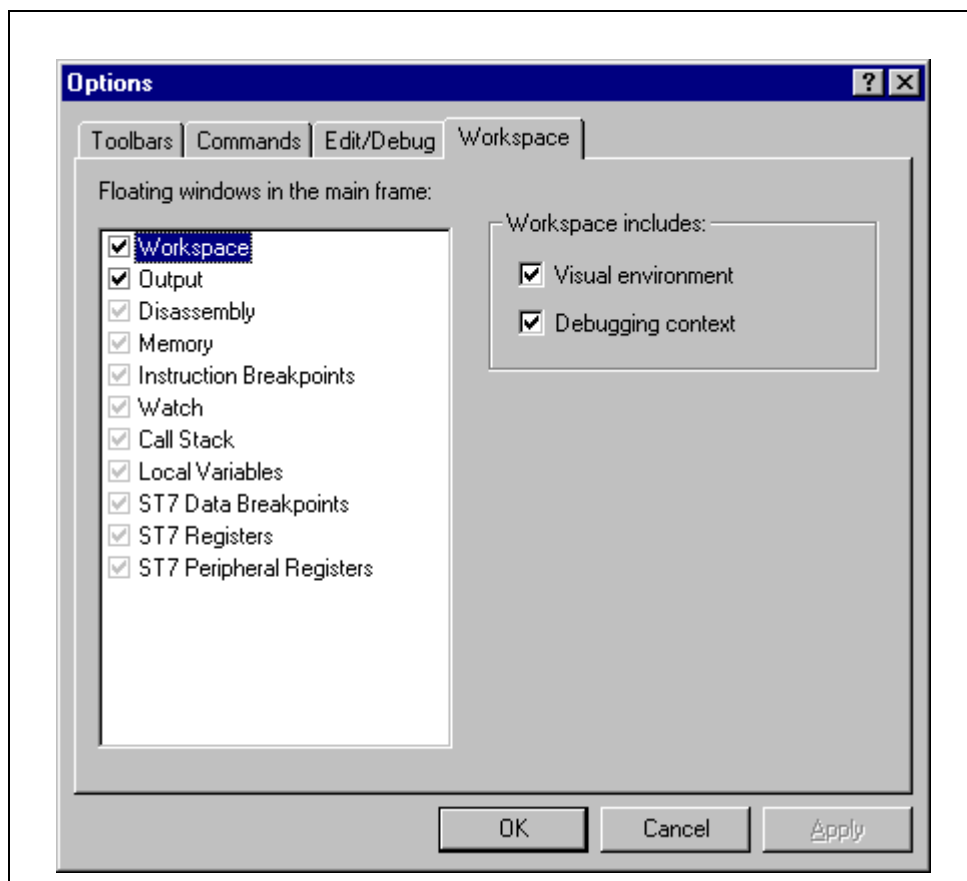

Figure 10: Options window
- 2 In the Options window that opens (see *Figure 10 on page 36*), select the **Workspace** tab.